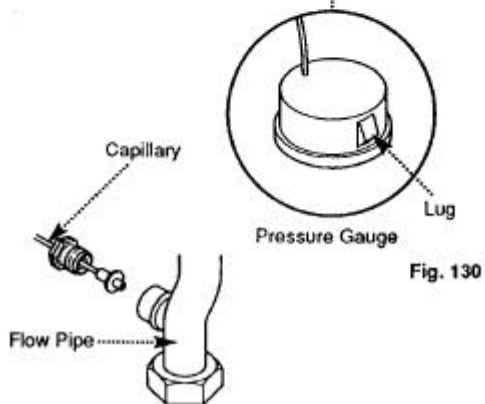

Fig. 130
5. Press in the two lugs on the gauge body, and pass the gauge and capillary through the fascia (Fig. 130).